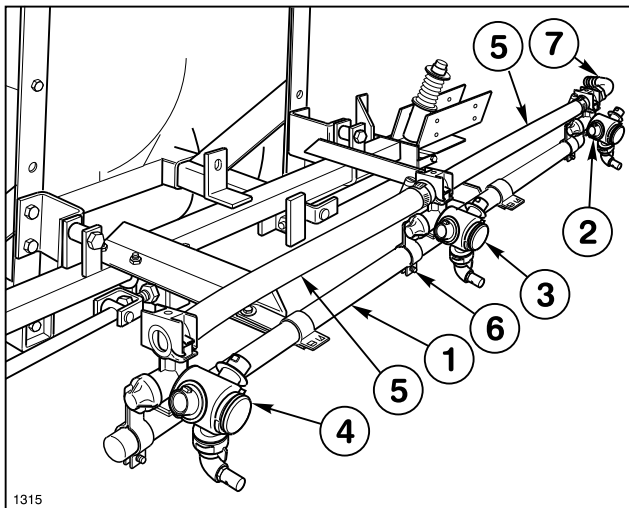

FIG. 1
1. Loosely attach the Double Barb Turret Body with the Turret Body Clamp in the approximate center of the Center Boom Pipe. For the most uniform spray coverage, position all Nozzle Bodies level as shown in Fig. 1.
2. Loosely attach a Single Barb Turret Body with a Turret Body Clamp to L.H. end of the Center Boom Pipe. Loosely attach the Threaded Barb Turret Body with a Turret Body Clamp to RH end of the Center Boom Pipe. See FIG. 1.
3. Place (2) hose clamps on the (2) 3/4" x 19" jumper Hoses and connect the two "end" Turret Bodies to the Double Barb Turret Body. Space Nozzles 20" apart and Tighten fasteners securely.
4. Apply Teflon Tape and install the 90° 3/4" Hose Barb on the Threaded Barb Turret Body. See FIG. 1.
7. Replace the center Boom Feeder Hose with the 3/4 x 50" Hose included and attach to 90° barb in the Threaded Barb Turret Body. See FIG. 1.